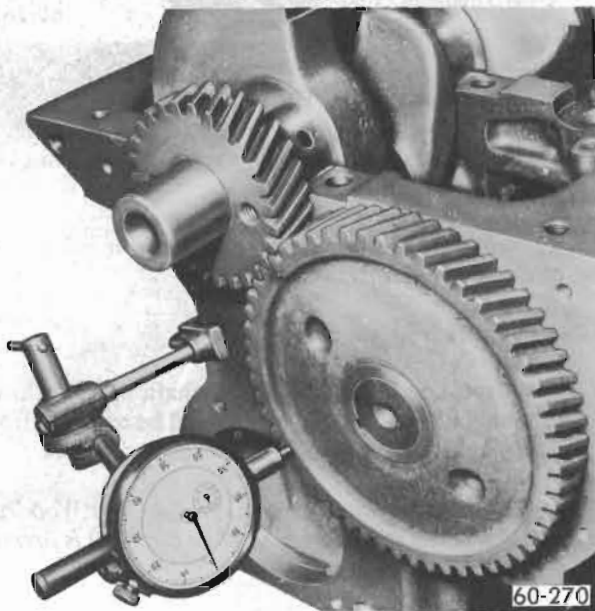

Figure 60-35 - Checking Camshaft Gear Runout
3. Check camshaft and crankshaft gear runout with a dial indicator. The camshaft gear runout should not exceed .004" and the crankshaft gear runout should not exceed .003". See Figure 60-35.